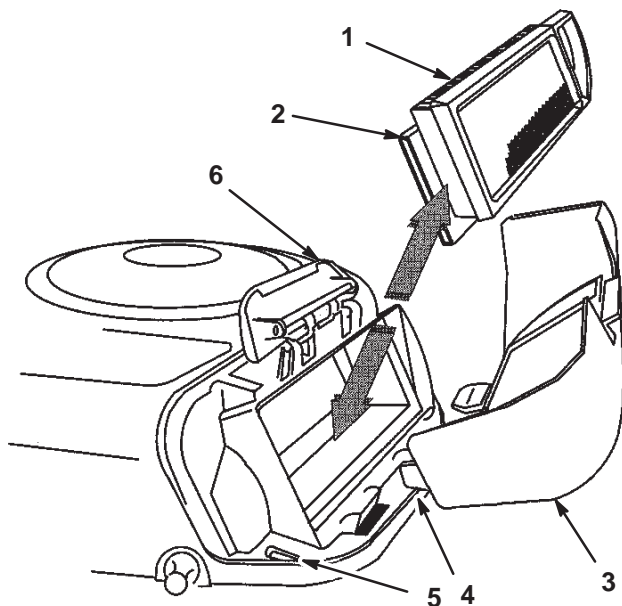

Figure 23
4. Carefully slide the paper element and foam element from the blower housing (Fig. 23).
2. Align the tabs on the air cleaner cover with the slots of the blower housing (Fig. 23). Hook the handle onto the cover and press down on the handle to lock the cover in place.